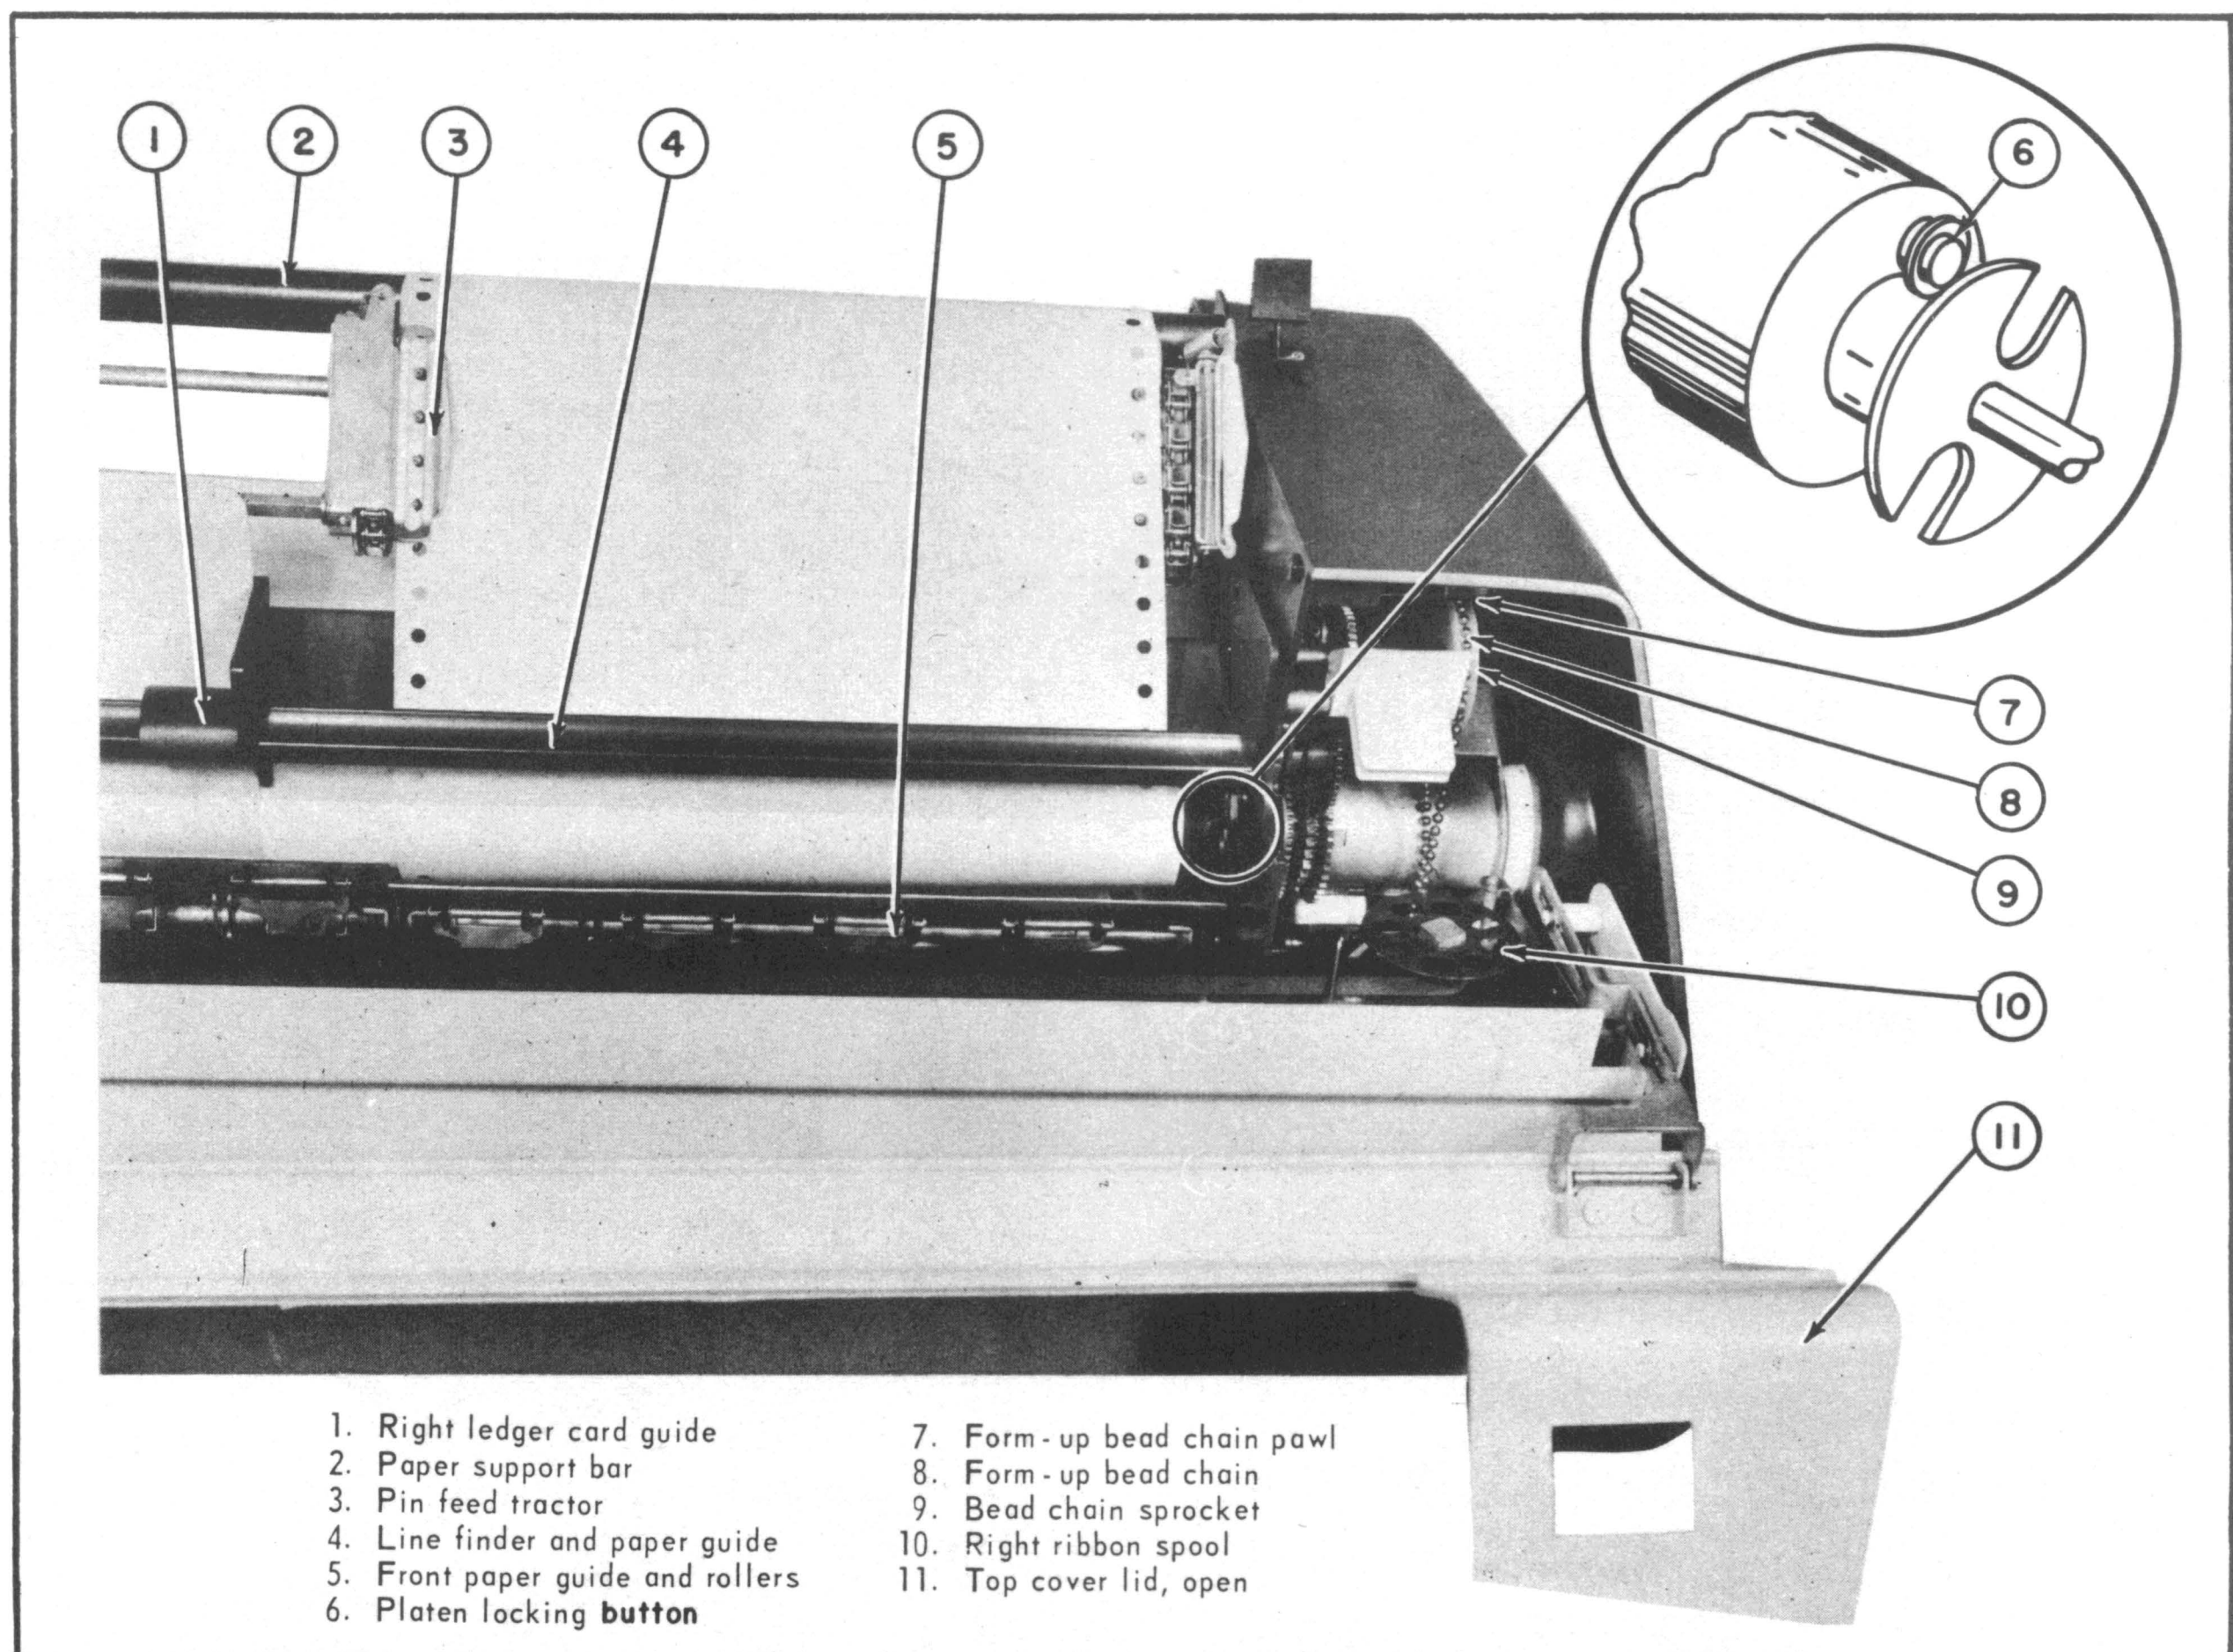

Figure 6.3
- A. Pull the top cover of the printer away from the printer and swing it up and out. (Figure 6.3.)